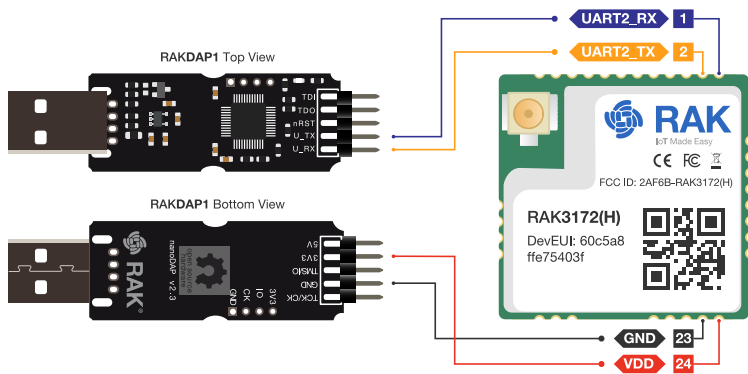

Figure 35: RAK3172 Module Connection
4. After creating an account, you should log in on the platform using your username/email and password then click **Submit**, as shown in Figure 35.